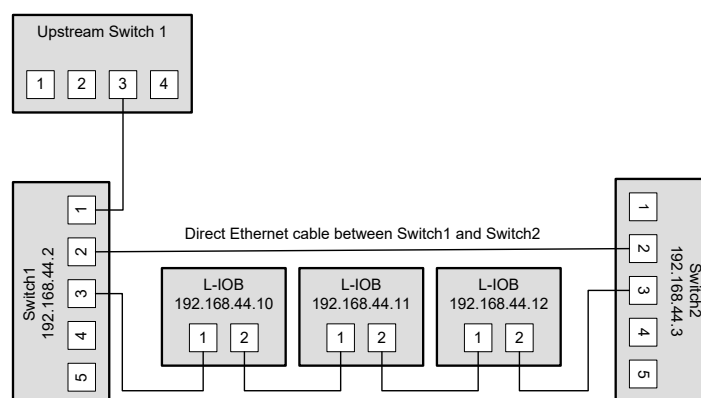

Figure 120: Single upstream connection.
**Single upstream connection:** Switch1 (or Switch2, but not both) is connected to the upstream network while Switch2 only provides a redundant path to the LOYTEC devices. The redundant path is created by a direct Ethernet cable between Switch1 and Switch2 which needs to be plugged into a lower-numbered port than the L-IOB devices are connected to. If this is not possible, the STP port priority for the cross-connection cable needs to be set to a low value. The RSTP domain should be restricted to Switch1 and Switch2. This can be done by enabling a BPDU filter on the port on Upstream Switch 1. This will block all RSTP packets to enter the upstream network. A sample setup for this topology is shown in Figure 120.